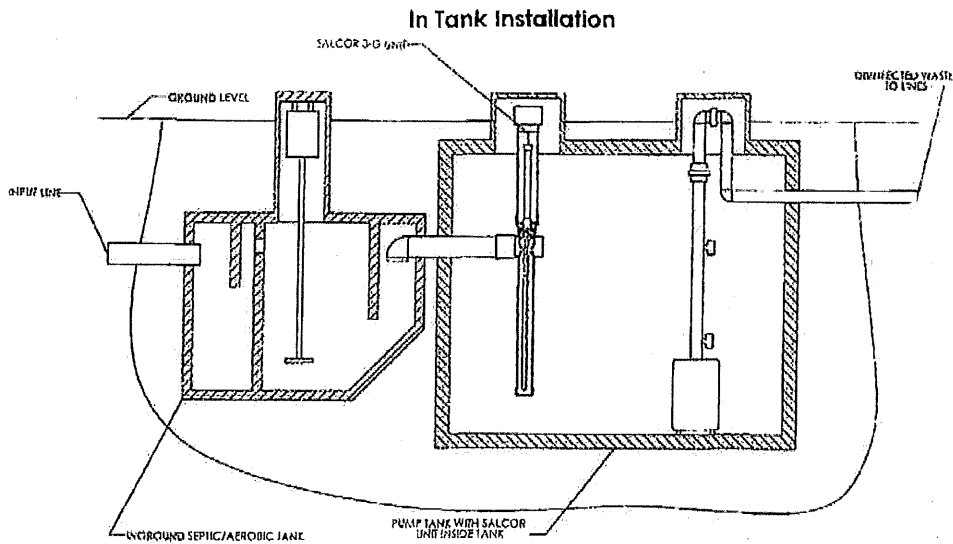

Figure 3
2. In a Pump Tank Installation: Couple the UV Unit inlet pipe to the pretreatment unit exit pipe at the entrance of the pump tank. See Figure 3 (page 8).